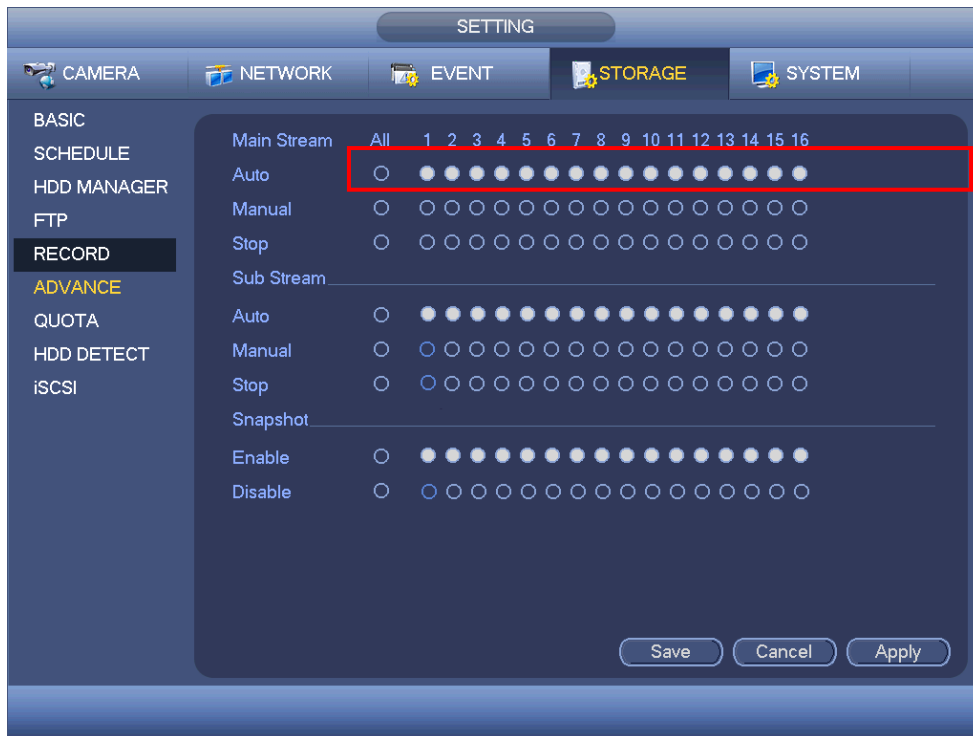

Figure 4-92
- On the preview interface, right click mouse and then select Manual->Record, or in the main menu, from Setting->Storage->Record, check the box to enable schedule function of corresponding channels. See Figure 4-92.